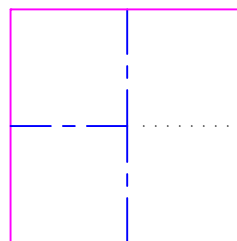

FIG. 13.2
STEP 14: CUT 8 9" X 9" PIECES OF W/P SHEET TWO FOR EACH CORNER. TAKE FOUR OF THE PIECES AND FOLD IN EVEN QUARTERS (BLUE FOLD LINES) CUT ALONG THE GREEN CUT LINE IN FIG. 13.2. THIS WILL MAKE A BOX CUT TARGET PATCH. PLACE IT ONTO EACH CORNER. PRESS IN FIRMLY AND TOP COAT LIGHTLY WITH ADHESIVE.